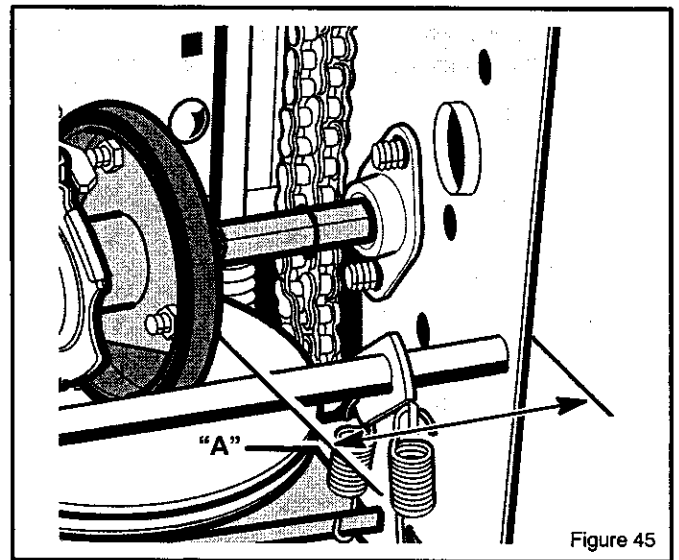

Figure 45
6. Note the position of the **friction wheel** (see Figure 45). The correct distance "**A**" from the right side of the **friction wheel** to the outside of the motorbox is as follows:
3. Move the **friction wheel** against to the correct position (see Figure 45).